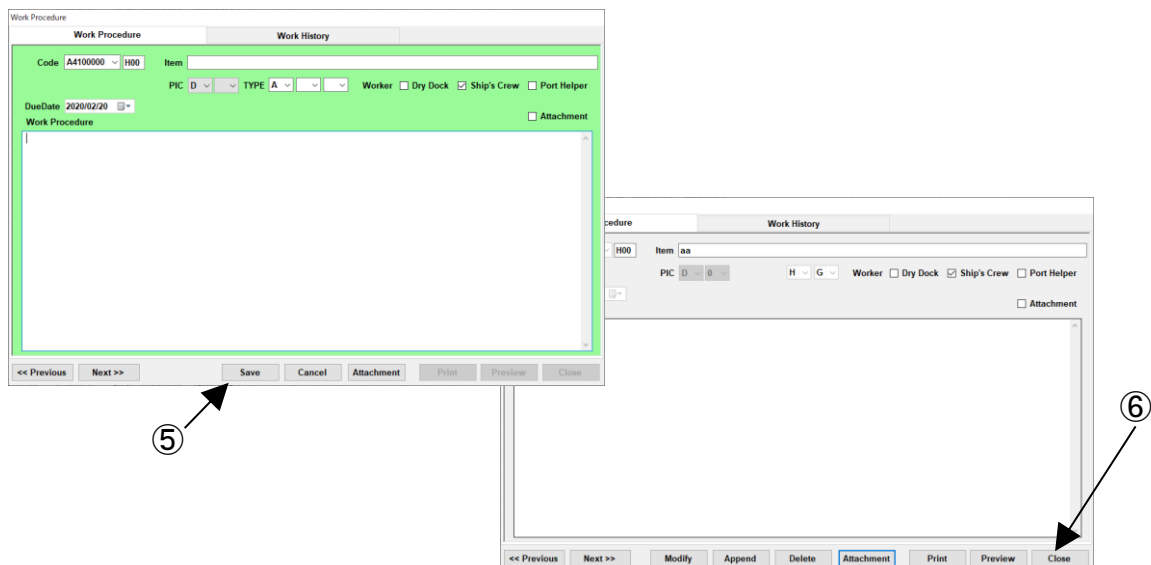

Fig.11-7 Work Procedure screen
(3) "Work Procedure Screen" (Figure 11-7) is displayed.
(4) Please enter the following data.